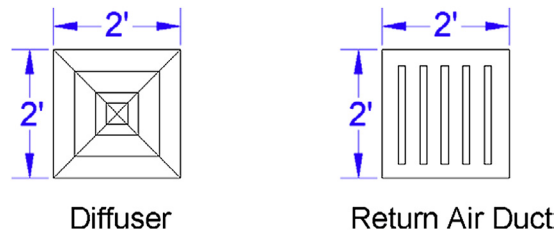

FIGURE 16.15
Step 2. Create some HVAC symbols, as shown in Figure 16.15. Make blocks out of them for easier handling. Be sure to be on that object's layer before making a block.